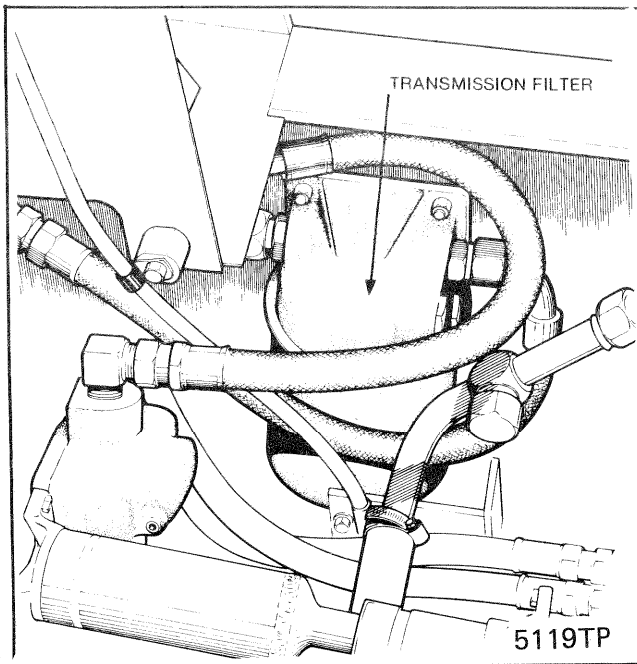

Fig. 9-2 Transmission Filter Location
**Transmission, Torque Converter and Clark Winch** — The torque converter, transmission & winch hydraulic system is protected by full flow replaceable element type filter assembly. The filter is mounted on the right hand side of frame channels under floor board (See Fig. 9-2 for filter position) all fluid leaving the converter pump passes through the filter providing clean fluid to the torque converter, transmission, and Clark winch.
5. Replace the element in the transmission and torque converter filter assembly. (See Fig. 9-2 for the position of the filter assembly.) Thoroughly clean the filter case and base casting before installing a new element. Use a new gasket in the base casting and tighten the center bolt to 30 ft. lbs. (4.15 kg. m.) torque.